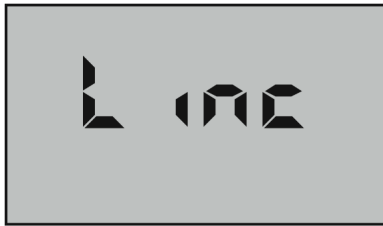

Figure 27
3. Press  arrow key until the menu “**Linc**” appears (see Figure 27).
2. Press  key until the menu **"Linc"** appears (see Figure 27).